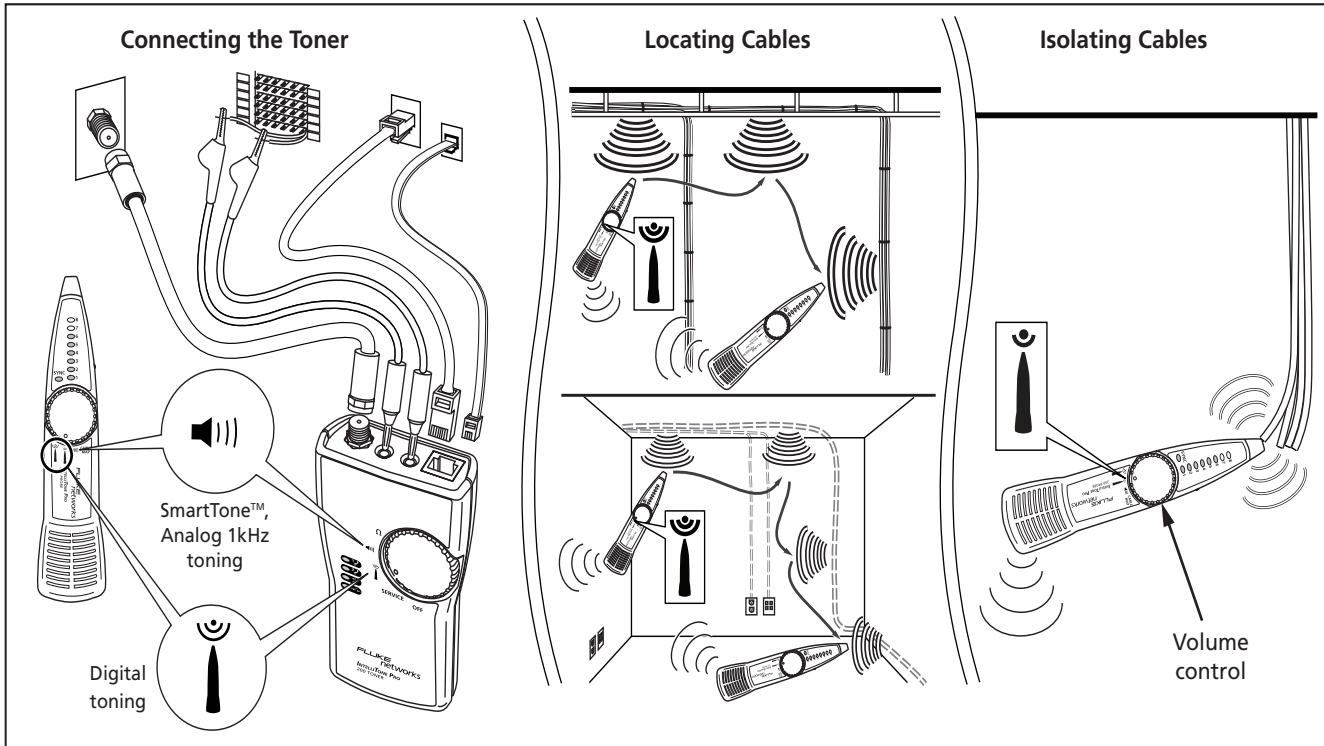

Figure 1. Locating and Isolating Cables
1. Connect the IT200 toner to a jack or punch-down block as shown in Figure 1.
1. Connect an IT200 or IT100 toner to a RJ11 or RJ45 jack, as shown in Figure 1.